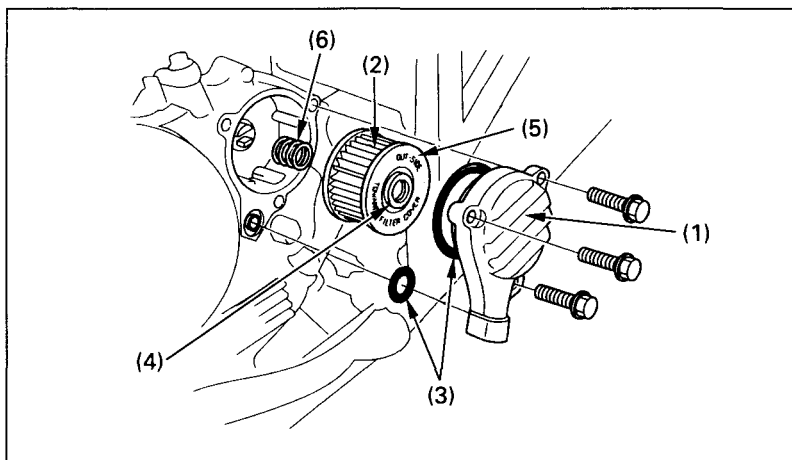

Fig. 4-12
(1) Oil drain plug
3. Remove the oil filter cover (Fig. 4-12) by removing the bolts. Let the remaining oil drain out.